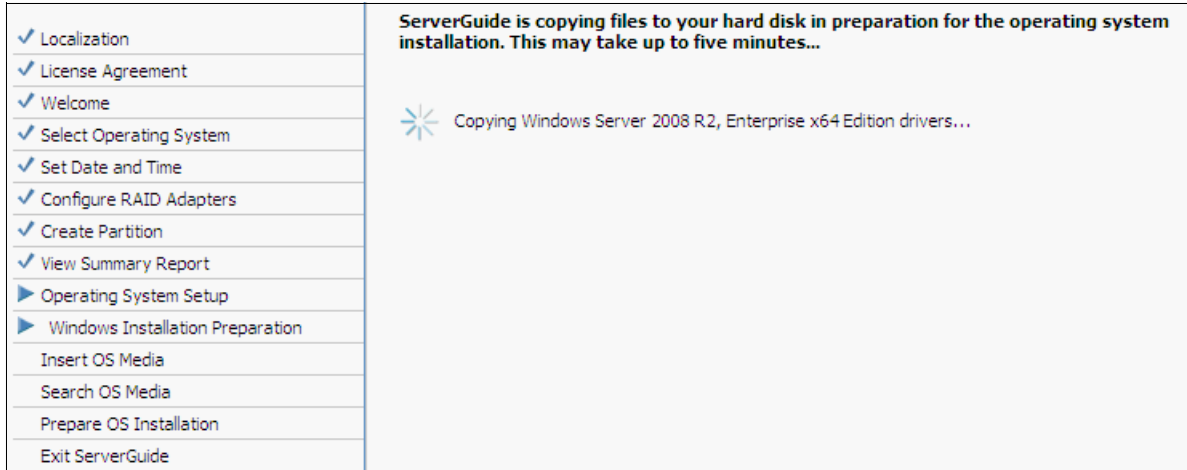

Figure 9-57 ServerGuide copying files
17. ServerGuide copies the necessary files to the disk in preparation for the operating system installation, as shown in Figure 9-57 on page 506.